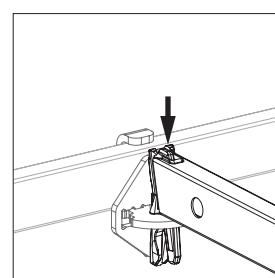

Fig. A11.06j
5. Knock in the wedges of the horizontal ledgers firmly. (Fig. A11.06j)